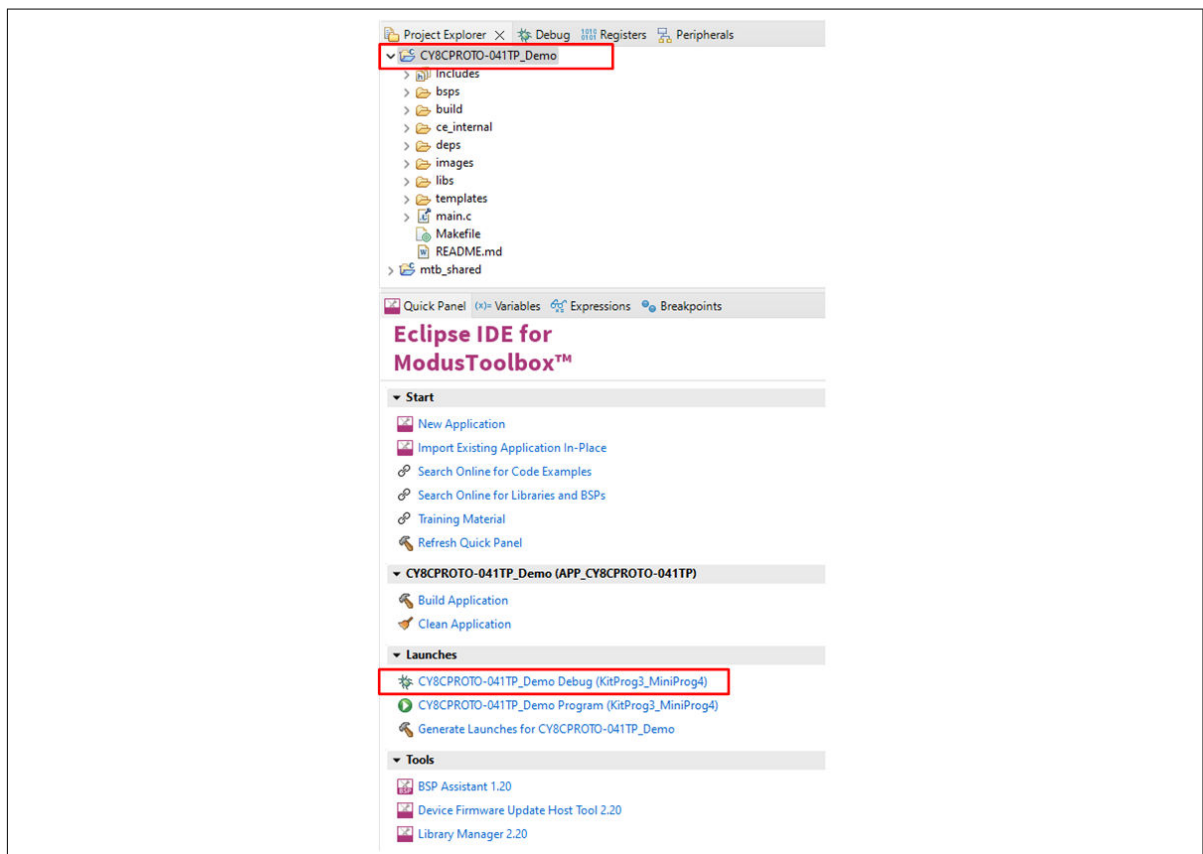

Figure 18 Debugging the code example
- b. In the **Quick Panel**, navigate to the **Launches** section, and click the **<App_Name> Debug (KitProg3_MiniProg4)** configuration, as shown in Figure 18